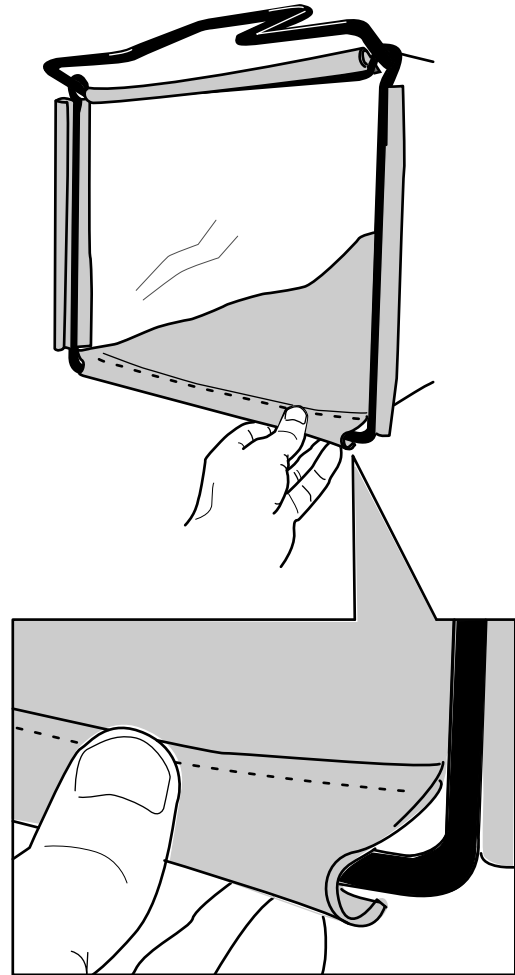

Figure 12
2. Hook the bottom channel of the bag onto the bottom of the frame (Figure 12).
3. Hook the top and side channels of the bag onto the top and sides of the frame, respectively (Figure 12).